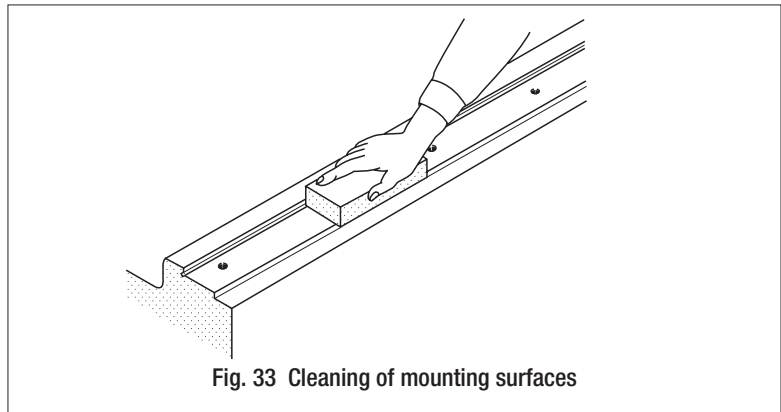

Fig. 33 Cleaning of mounting surfaces
- Remove burrs and blemishes from reference mounting surfaces and mounting surfaces of the machine using an oil-stone, etc., and then wipe the surfaces with clean cloth. (See Fig. 33.)